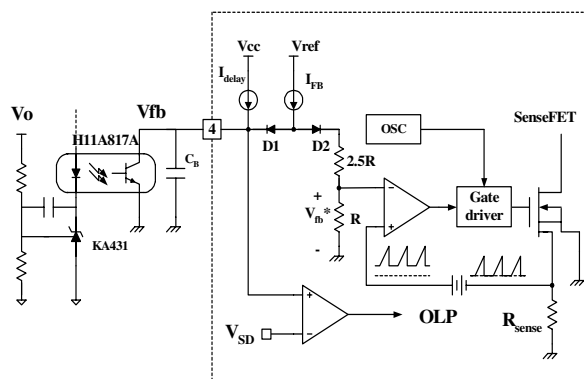

Figure 5. Pulse width modulation (PWM) circuit
2. Feedback Control : FSDM07652R employs current mode control, as shown in figure 5. An opto-coupler (such as the H11A817A) and shunt regulator (such as the KA431) are typically used to implement the feedback network. Comparing the feedback voltage with the voltage across the Rsense resistor plus an offset voltage makes it possible to control the switching duty cycle. When the reference pin voltage of the KA431 exceeds the internal reference voltage of 2.5V, the H11A817A LED current increases, thus pulling down the feedback voltage and reducing the duty cycle. This event typically happens when the input voltage is increased or the output load is decreased.
2.1 Pulse-by-pulse current limit: Because current mode control is employed, the peak current through the Sense FET is limited by the inverting input of PWM comparator (V_{fb}^*) as shown in figure 5. Assuming that the 0.9mA current source flows only through the internal resistor ($2.5R + R = 2.8 k\Omega$), the cathode voltage of diode D2 is about 2.5V. Since D1 is blocked when the feedback voltage (V_{fb}) exceeds 2.5V, the maximum voltage of the cathode of D2 is clamped at this voltage, thus clamping V_{fb}^* . Therefore, the peak value of the current through the Sense FET is limited.